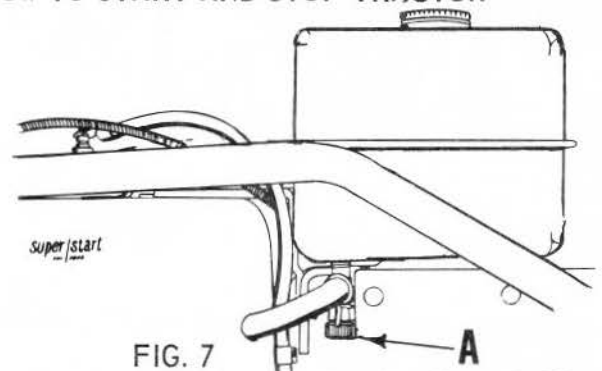

FIG. 7
- Open gasoline shut-off valve (A, Fig. 7). Close gasoline shut-off valve after each days use.